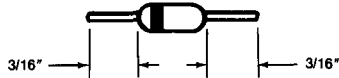

Fig. B-2. Preparation, step 2.
2. Prepare diode as shown in Fig. B-2: